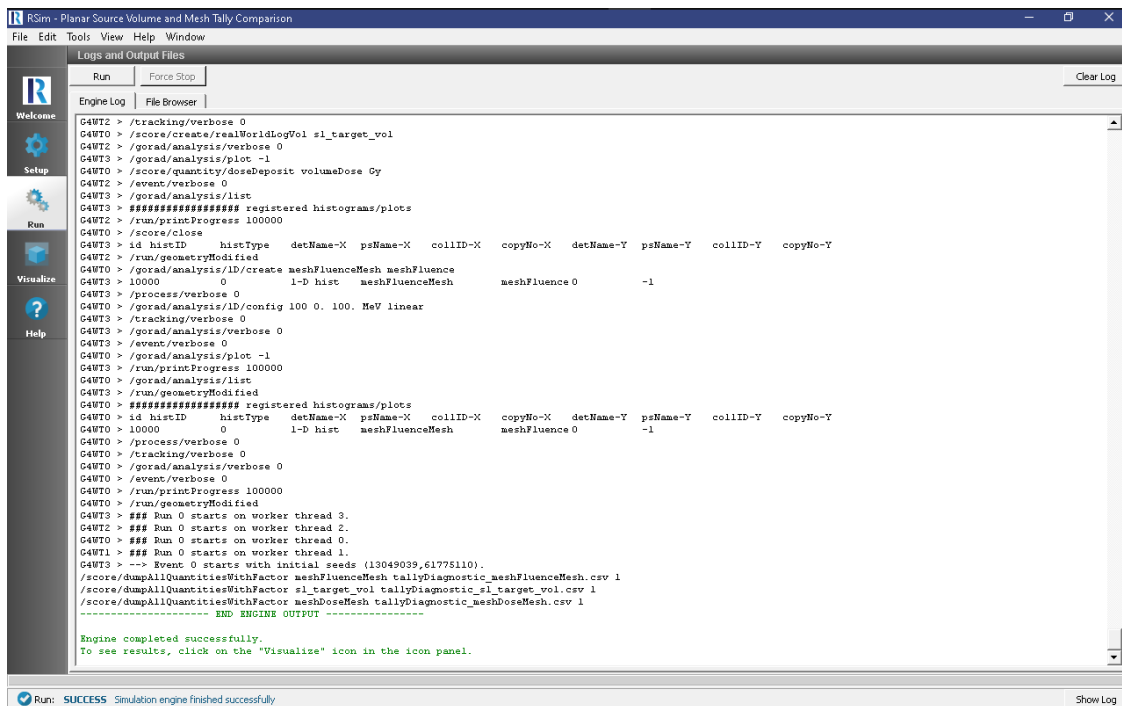

Fig. 2.39: The Run Window at the end of execution.
- To run the file, click on the *Run* button in the upper left corner of the *Logs and Output Files* pane. You will see the output of the run in the right pane. The run has completed when you see the output, “Engine completed successfully.” This is shown in Fig. 2.39.